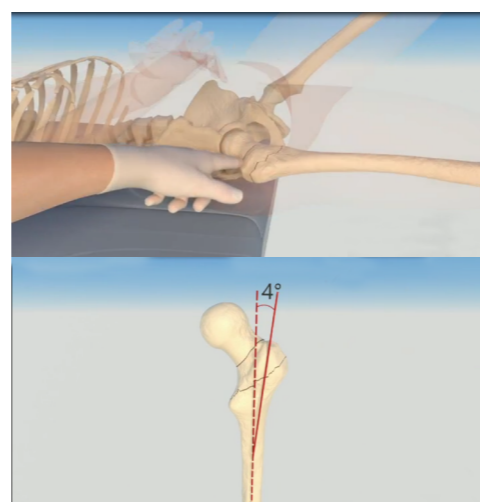

Figure 2b
- The insertion point should be slightly medial to the apex of the greater trochanter, so that the approach is at a 4° angle with the femoral axis in the upright position and in a straight line with the medullary cavity in the lateral position (Figure 2b).